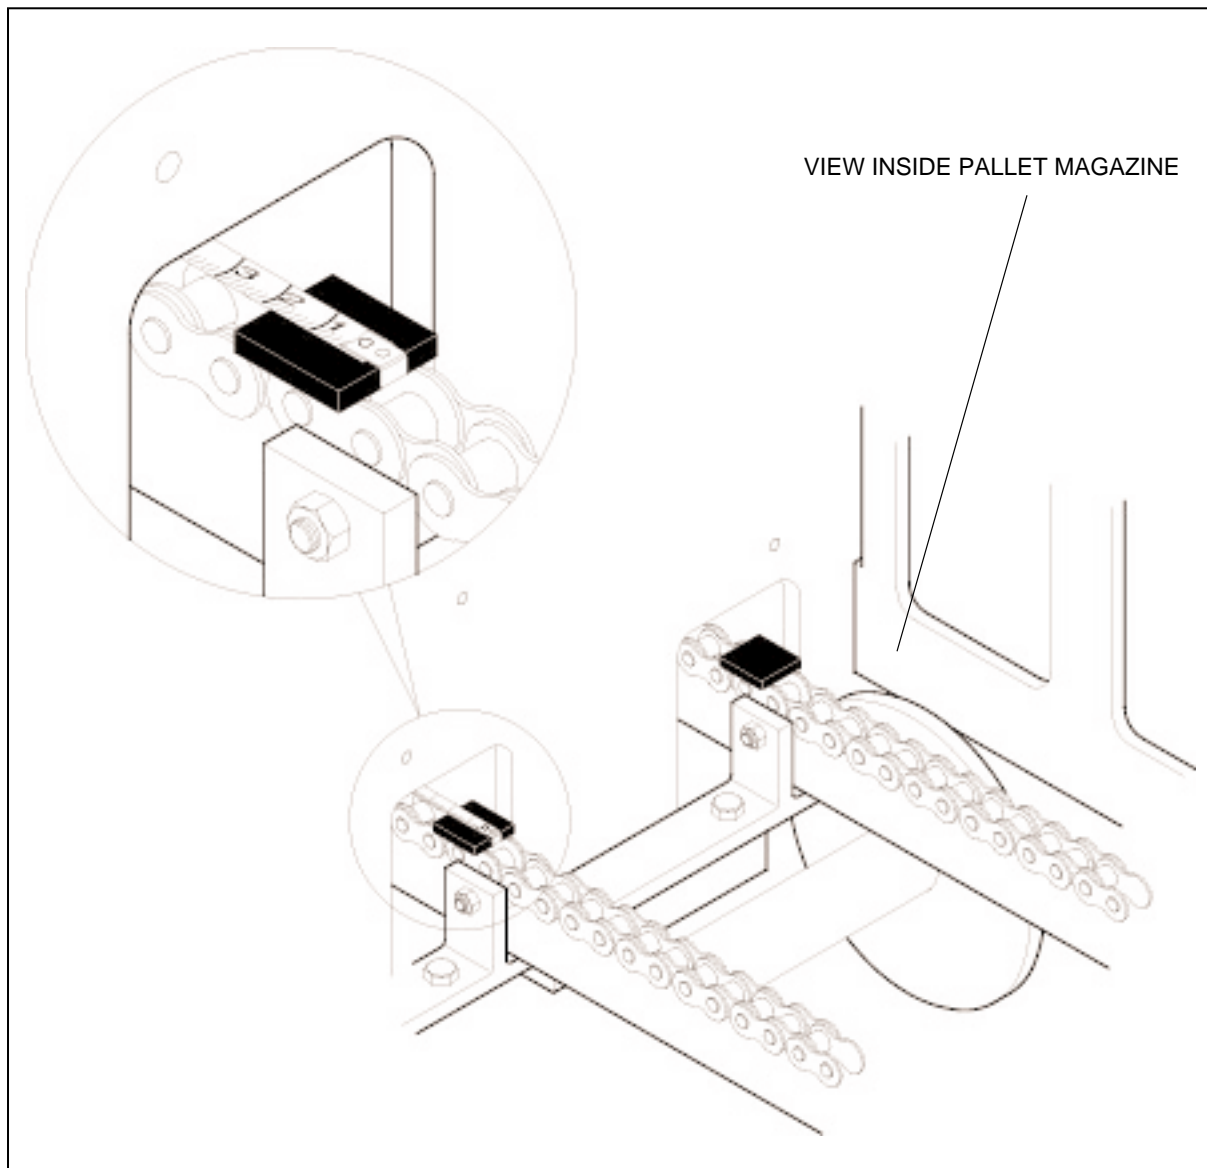

Figure 4.42 MEASURING DISTANCE FROM REAR OF PALLET MAGAZINE TO A CHAIN LUG
- 4.3.18 Measure and record the distance from the rear of the pallet magazine to the front of a chain lug on the pallet moving chain (see figure 4.42). Refer to section 6, "*Timing the pallet feeder*".